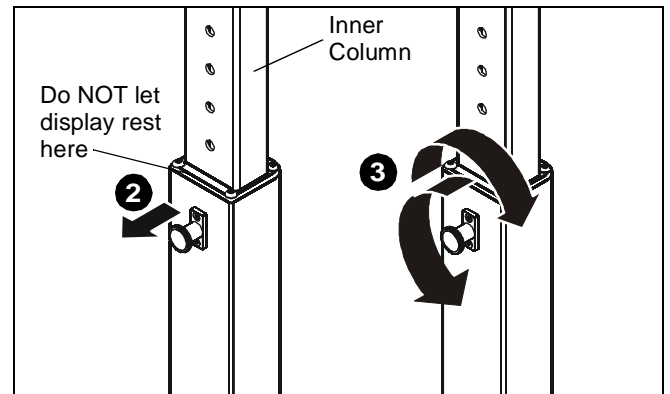

Figure 7
2. Adjust the cart to the desired height by slightly lifting the head assembly, pulling out knob on the center post and turning 90° in either direction to disengage the locking mechanism. (See Figure 7)
3. Raise or lower the center post, then turn the knob 90° either direction to engage the knob and lock the cart at desired height. (See Figure 7)
**IMPORTANT !** : Set the height of the cart so the display does NOT rest on the lower part of the center post. (See Figure 7) Always set the height so the knob is engaged in a hole in the center post.